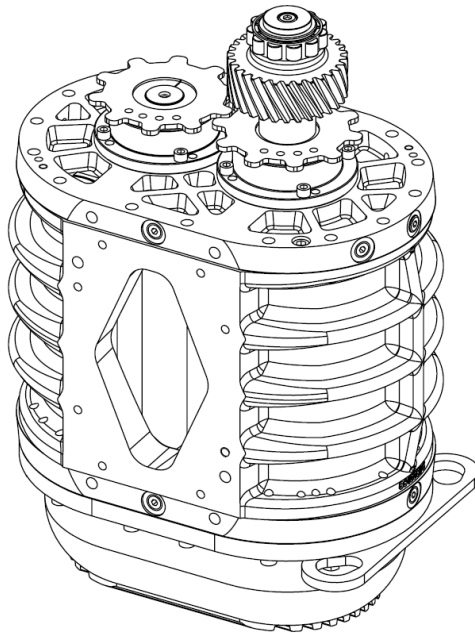

Figure 7-73: Vertical positioning of blower
11. Allow the oil to settle and adjust the level of each reservoir as necessary until it is slightly below the center of each sight glass as seen in **Figure 7-73**.